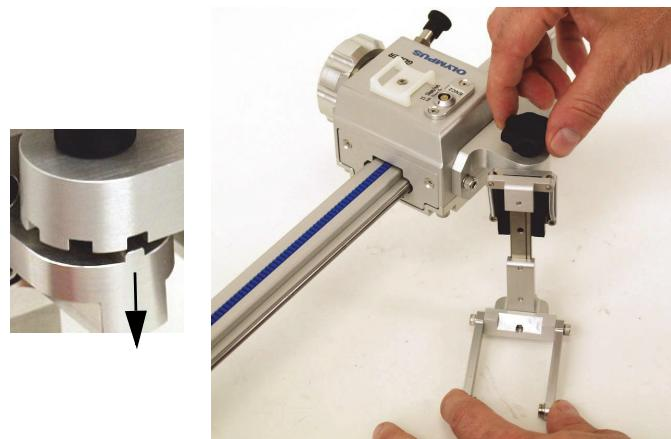

Figure 2-19 Freeing the notch (left) and turning the probe holder
2. Free the position-locking notch under the knob and turn the probe holder to the desired position (see Figure 2-19 on page 39).